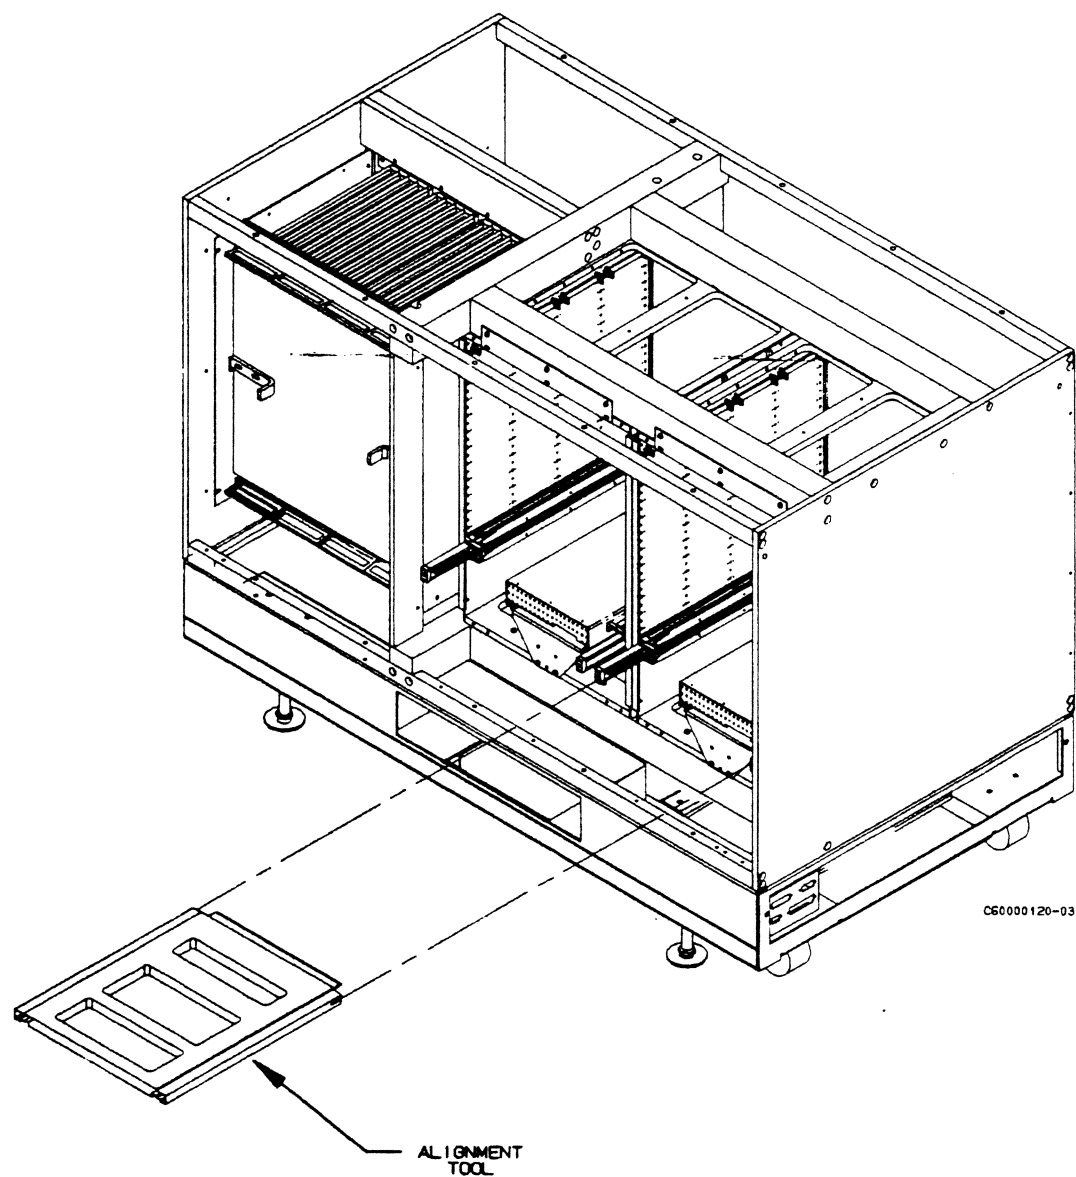

Figure 3-20. Multipoint Connector Alignment
- ___ 3. Carefully slide multipoint connector alignment gauge into top module slot, ensuring connectors are not damaged (figure 3-20).